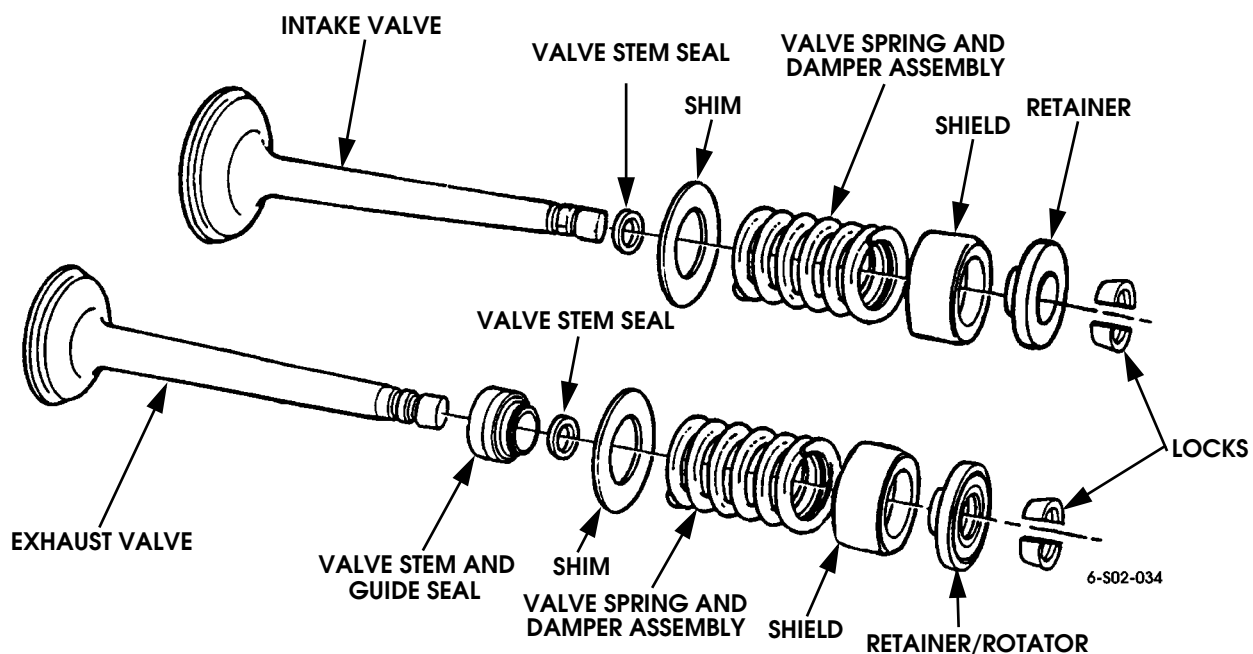

Figure 2-157: Intake and Exhaust Valve Components
- b. Remove valve locks (Figure 2-157).
- g. On exhaust valve, also remove nylon stem and guide seal (Figure 2-157).